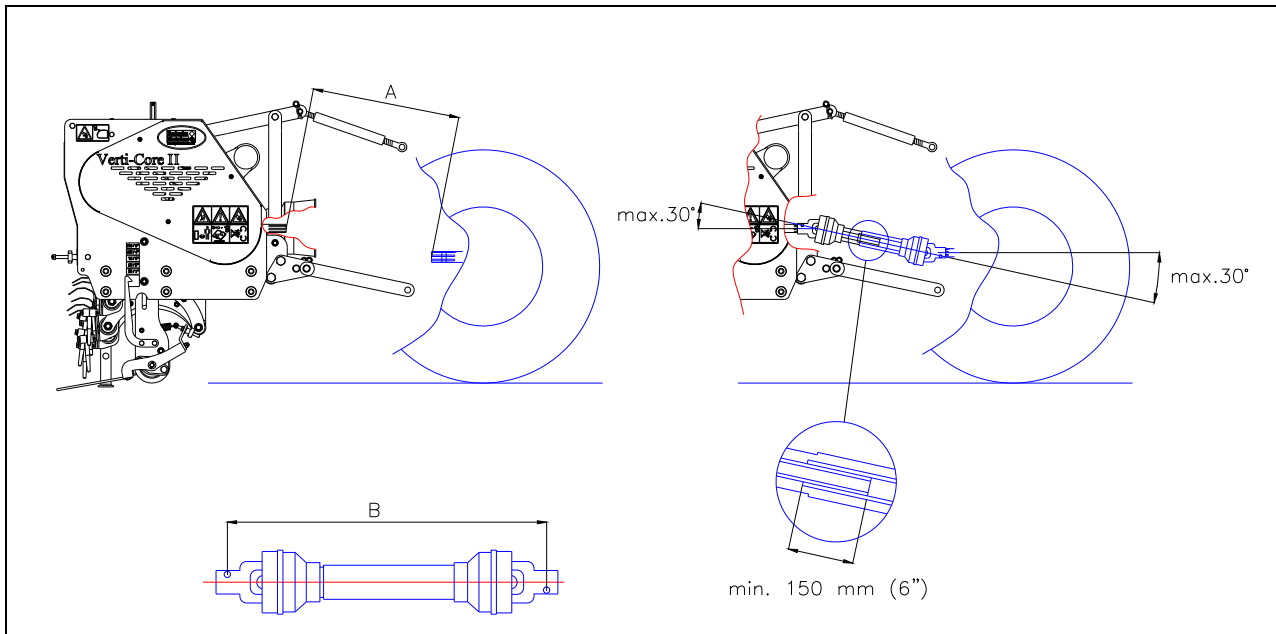

Fig. 10
| 3.1 PTO LENGTH (fig. 10)..... | 10 |
3.1 PTO LENGTH (Fig. 10)